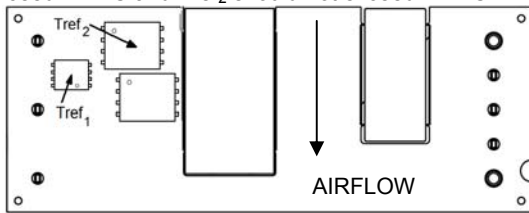

Figure 13. T_{ref} Temperature Measurement Location for Open Frame Module.
To provide protection under certain fault conditions, the unit is equipped with a thermal shutdown circuit. The unit will shutdown if the thermal reference point T_{ref} (Figure 13), exceeds 128 $^{\circ}$ C (typical), but the thermal shutdown is not intended as a guarantee that the unit will survive temperatures beyond its rating. The module can be restarted by cycling the dc input power for at least one second or by toggling the remote on/off signal for at least one second. If the auto-restart option (4) is ordered, the module will automatically restart upon cool-down to a safe temperature.
The thermal reference points, T_{ref1} and T_{ref2} used in the specifications for open frame modules are shown in Figure 13. For reliable operation T_{ref1} should not exceed 122°C and T_{ref2} should not exceed 124°C .